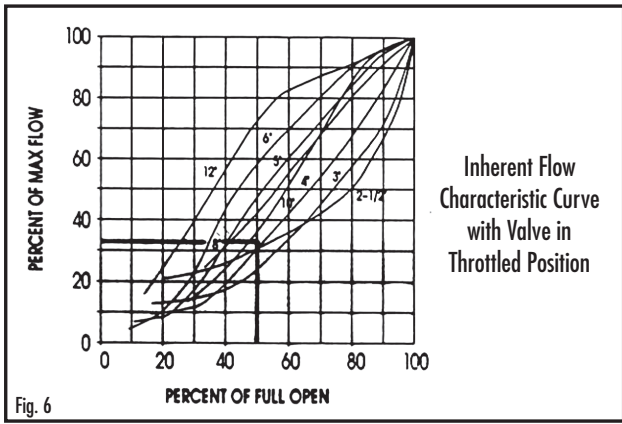

Fig. 6
6.3.3 Locate percentage of valve opening on the bottom scale of Flow Characteristic Curve (Fig 6). Project line vertically up to intersect with the Valve Characteristic Curve and from this point project line horizontally across to the left of the chart and record the percentage of maximum flow rate.
From Flow Characteristic Curve (Fig. 6), a 4 inch valve, 50% open, represents 34% of maximum flow.